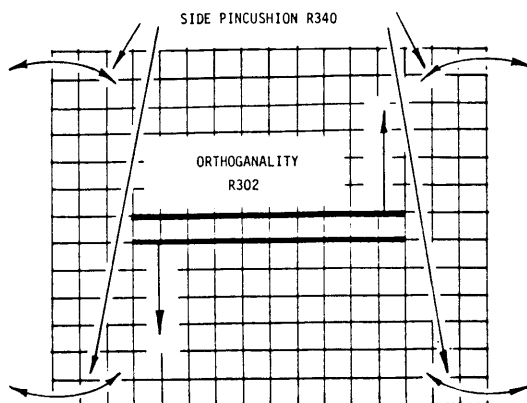

Figure 5. Effects of R302 and R340.
H. Adjust Orthogonality (R302) so that the two middle horizontal lines are straight and level beneath the two center rows of circles (perpendicular to the center vertical line). See Figure 5.
I. Adjust Side Pincushion (R340) so that the outermost vertical lines are as straight as possible (Figure 5). These lines may or may not fall beneath the appropriate circles at this time as a keystone effect may be apparent.